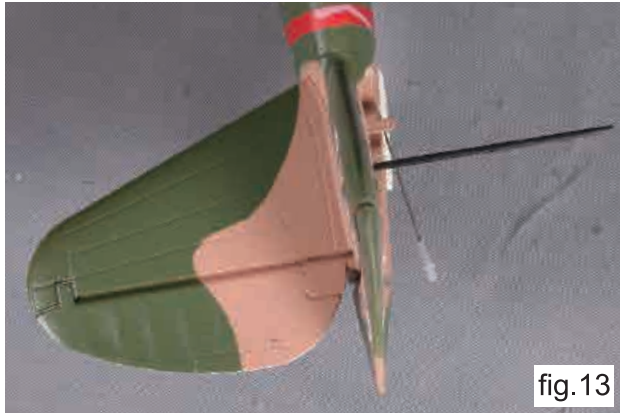

fig.13
- 13) Insert the fiberglass connecting tube “G” into the left side stabilizer (fig. 13). Slide the tube approximately halfway in. Do not force it in farther than it will slide. This will push the connecting tube into the foam and prevent it from fully inserting into the right side stabilizer half.